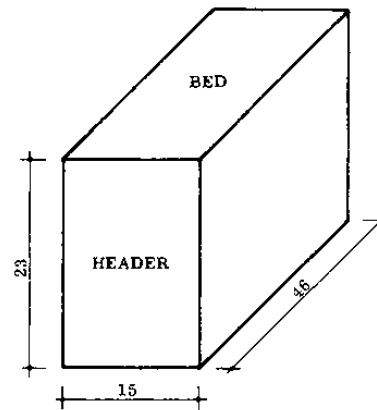

Fig. 4 SANDCRETE BLOCK
- SANDCRETE BLOCKS: This type of block is used for actual building (Fig. 4).